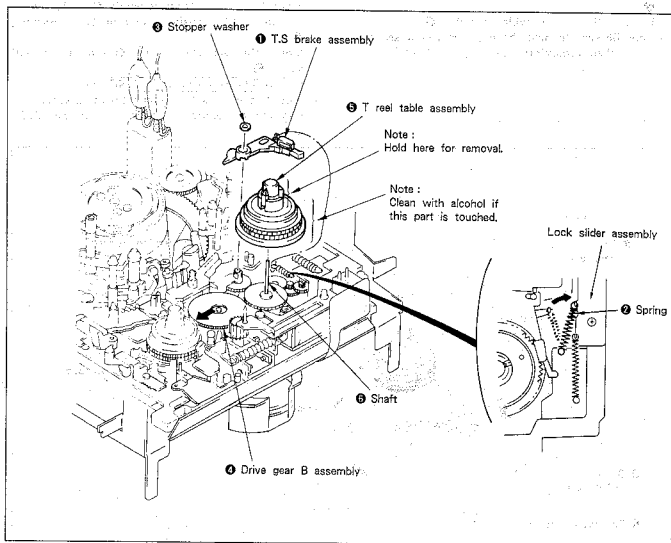

Fig. 7-7.
1. Removal (See Fig. 7-7.)
Note: Be sure to hold the upper reel claw section when removing. (See Fig. 7-7. (Note))
2. Mounting (See Fig. 7-7.)